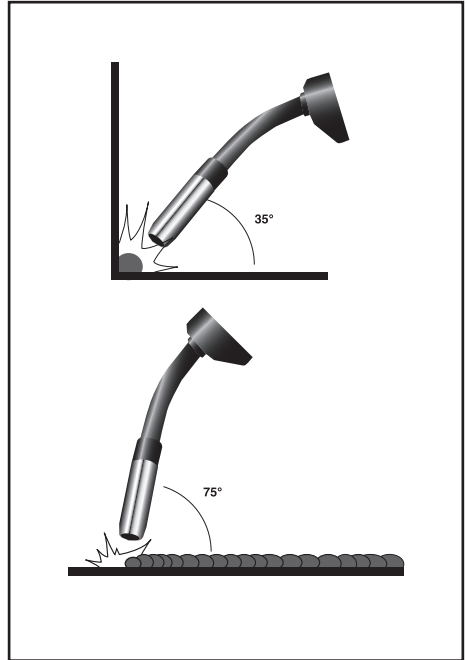

FIG.15
9.3 MIG WELDING PRINCIPLES FIG. 15